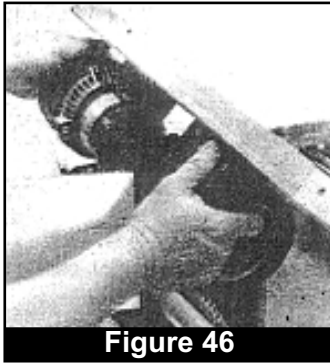

Figure 46
8. Remove fan blower motor bracket with fan blower motor(s) still attached and place entire assembly on a clean work space. (Fig. 46)
11. Replace the fan blower motor bracket in heating module with large flange up. (Fig. 46).